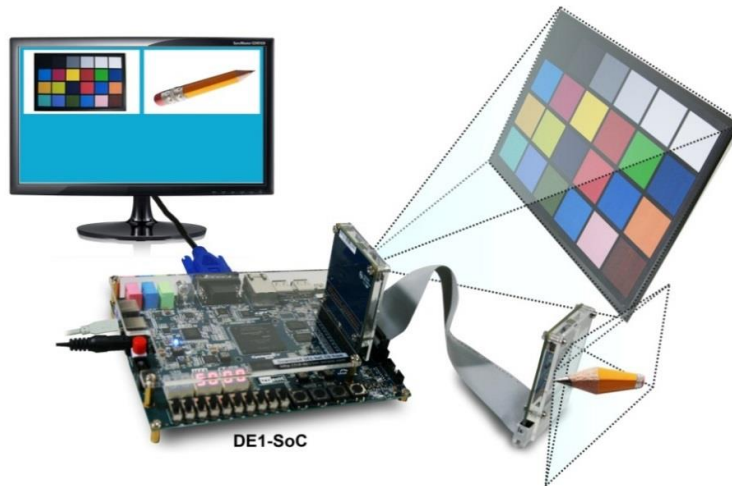

Figure 5-5 Function block diagram of DE1_SOC_D8MX2_VIP demonstration
- Connect the two D8M modules to GPIO0 (JP1) and GPIO1 (JP2) on DE1-SOC board (See **Figure 5-5**).